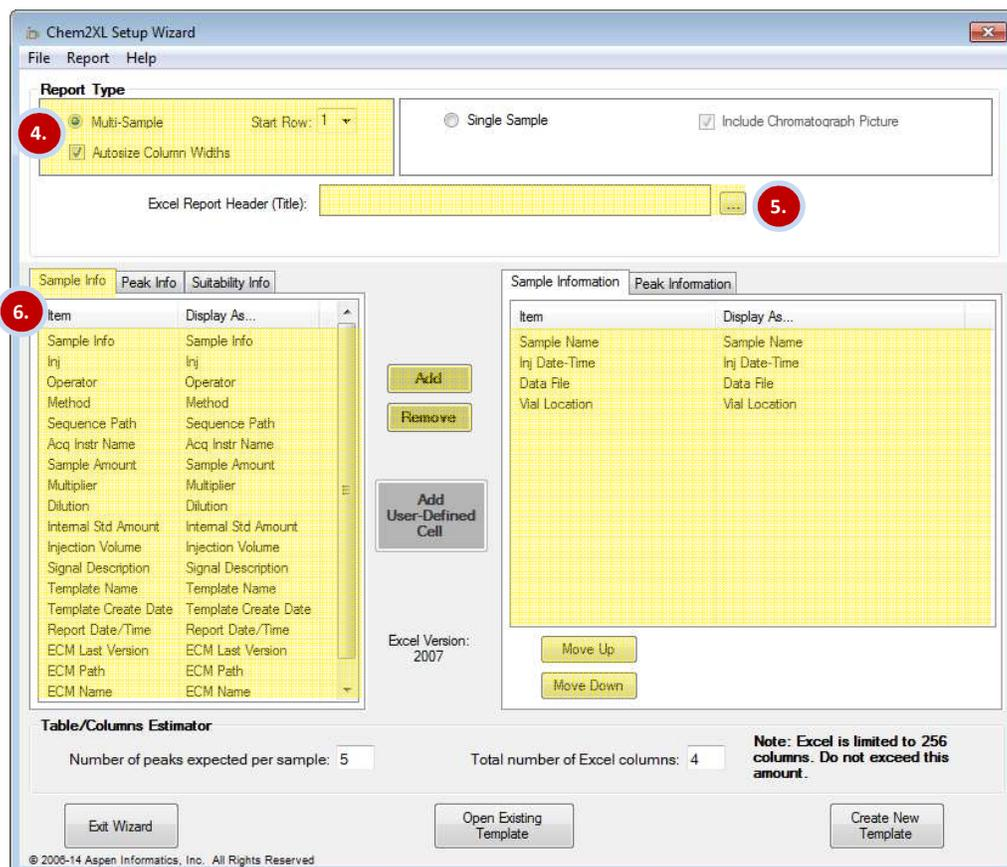

Figure 4.3 Template Setup Wizard
- Click *Multi-Sample* (and *Auto Size Column Widths* if desired). Choose the row to start placing the data on the sheet. You can leave up to 9 rows empty at the top for things like company logos, etc. (see #4 on Figure 4.3).
- (optional) Enter the title that will appear at the top of the Excel Report. Click the box to change the font/size for the Excel Header (see #5 Figure 4.3)
- From the *Sample Info* tab (see #6 Figure 4.3), choose items to appear on Report Header Section. Click each item desired on the left and click *Add* (or double-click the item). The item will then appear in the *Sample Information* tab to the right and will now be utilized in the template. If an item is no longer desired, click on the item on the right and then click *Remove* (or double-click the item to remove it). Items in the *Sample Information* and *Peak Information* sections will be placed into the report template in the order of selection. The order of Items may be changed by selecting the item and choosing *Move Up* or *Move Down*.